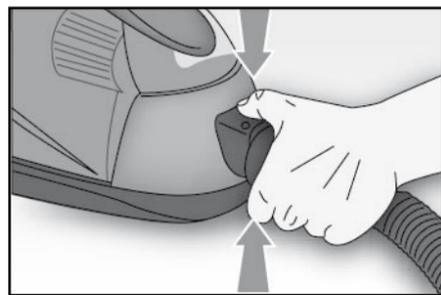

Fig. 2
- Fit the suction device (14) into the air inlet opening (6) and press it in until it clicks into place. To remove it, it is necessary to press the two release buttons (2) at the same time and to pull it out (Fig. 2).